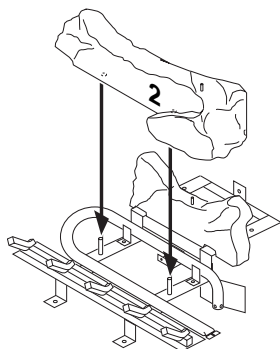

Figure 45 - Installing Log No. 2
2. Rest log #2 (front log) on pins on front part of grate (see Figure 45, page 26).